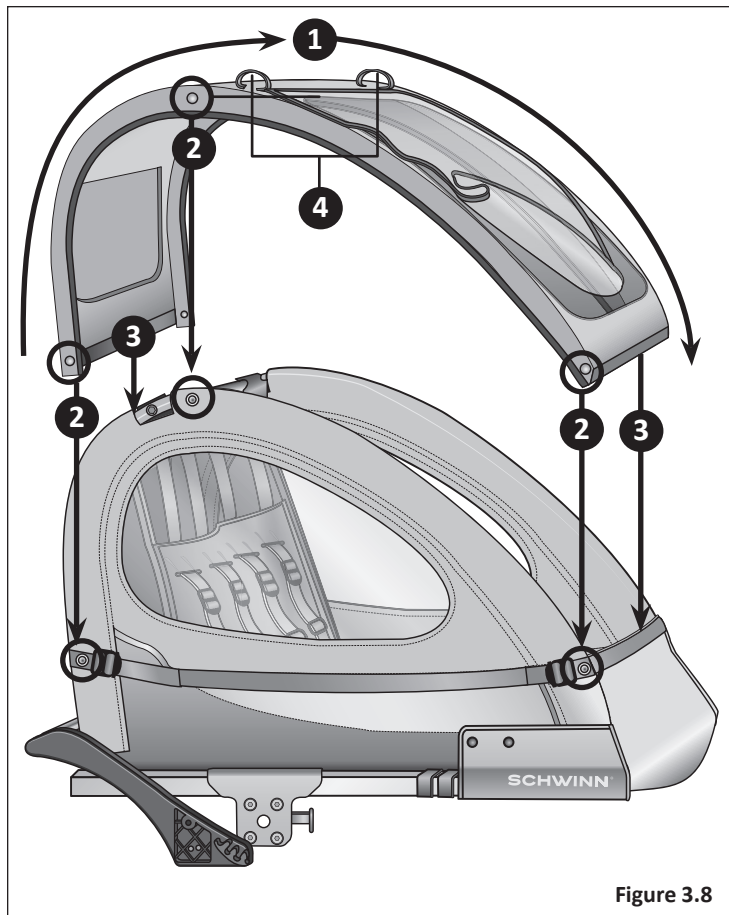

Figure 3.8
- 1 Place the canopy over the canopy frame **Figure 3.8**